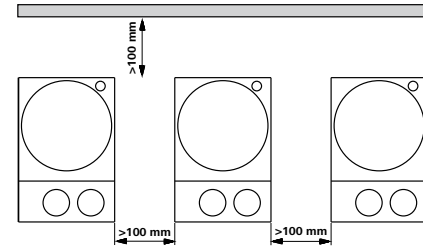

Fig. 3
- Observe the minimum distances between the devices, between the device and the wall and above the assembly (min. 800 mm), see Fig. 3.